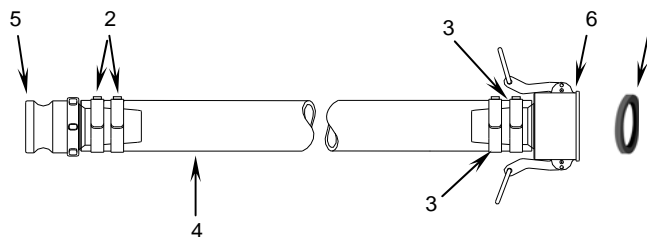

Figure 3. Repairing Grease Separator Drain Hose.
1. Remove existing gasket (**Figure 3, Item 1**) using a needle-nose pliers.
1. Remove and discard the crimped-on hose clamps (**Figure 3, Item 2**) and (**Figure 3, Item 3**). Replace with new worm-gear hose clamps.
2. Slide the hose (**Figure 3, Item 4**) off the adapter (**Figure 3, Item 5**) and the coupler (**Figure 3, Item 6**).
3. Replace hose (**Figure 3, Item 4**), adapter (**Figure 3, Item 5**), or coupler (**Figure 3, Item 6**) as required.
5. Slide one hose end over the adapter (**Figure 3, Item 5**), position the hose clamp (**Figure 3, Item 2**) and tighten.
6. Slide one hose end over the coupler (**Figure 3, Item 6**), position the hose clamp (**Figure 1, Item 3**) and tighten.